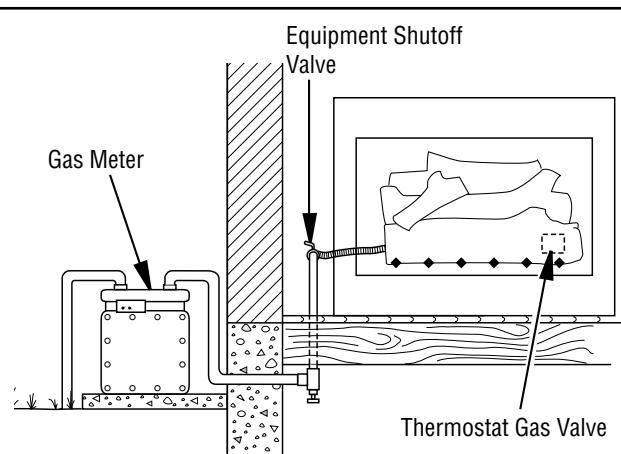

Figure 16 - Checking Gas Joints (Natural Gas Models)
2. Close equipment shutoff valve (see *Figure 16, page 13*).